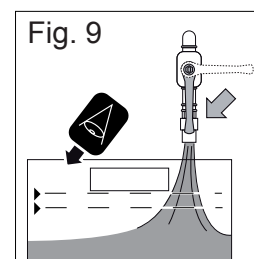

Fig. 9
2. Open the gate valve slowly and keep an eye on the recipient as it fills (Fig. 9).